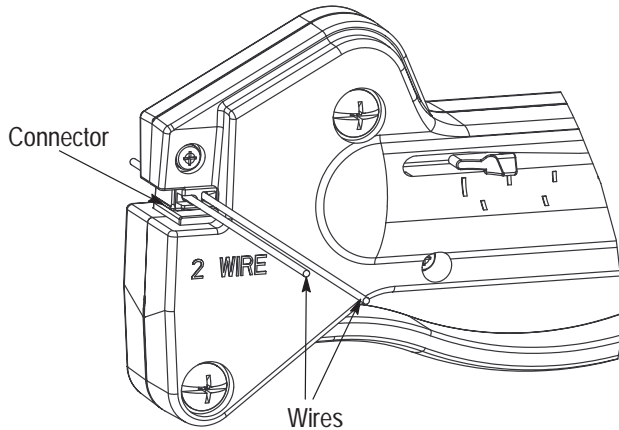

Figure 3
3. Insert wires into the connector according to the applicable connector application specification (114-series). Refer to Figure 3. Close applicator handle until the connector cover is seated on the top of the connector housing flange.